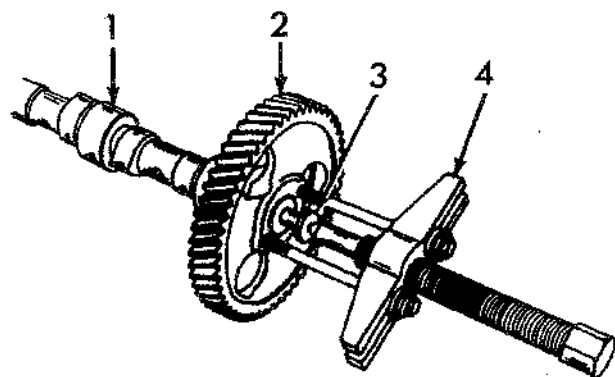

Fig. 6 -- Removing Camshaft Gear (T-51667)
8. On late units remove capscrew and retaining washer. Place the camshaft in a press and force the camshaft from the gear, or remove the camshaft gear with a puller (Fig. 6).
1. Stagger piston ring gaps evenly around piston and apply clean engine oil to pistons and rings. With a piston inserter (Fig. 6) install the piston and connecting rod in the cylinder sleeve by tapping on top of piston with wooden hammer handle. If any difficulty is encountered, however slight, the piston inserter must be removed and ring set inspected for correct installation in piston grooves. Align lower end of connecting rod with crankshaft before inserting piston into cylinder.